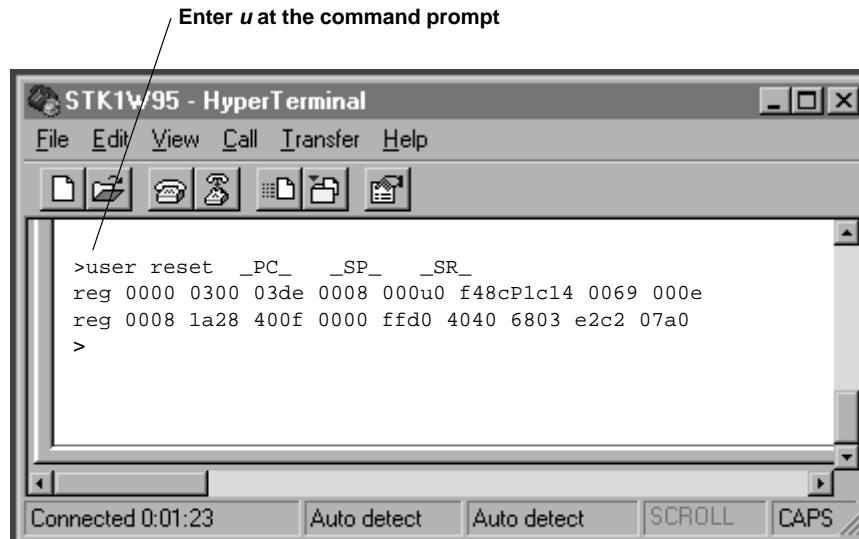

Figure 2-5. User Reset Command
- u** The *u* command, shown in Figure 2-5, sets the user PC to the start vector of the loaded user program. This performs a user reset of the application. In this example, the start vector of the user application, located at address 03FEh, is 0300h.